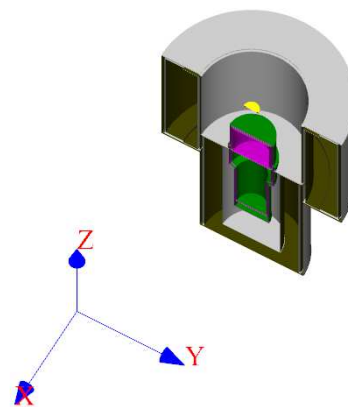

Figure 4. "Cabinet" projection
- cabinet projection. A view of the scene in the graphic area in the 'cabinet' projection. As an example, the image of the detector in the protective chamber in the 'cabinet' projection is shown (Fig. 4).